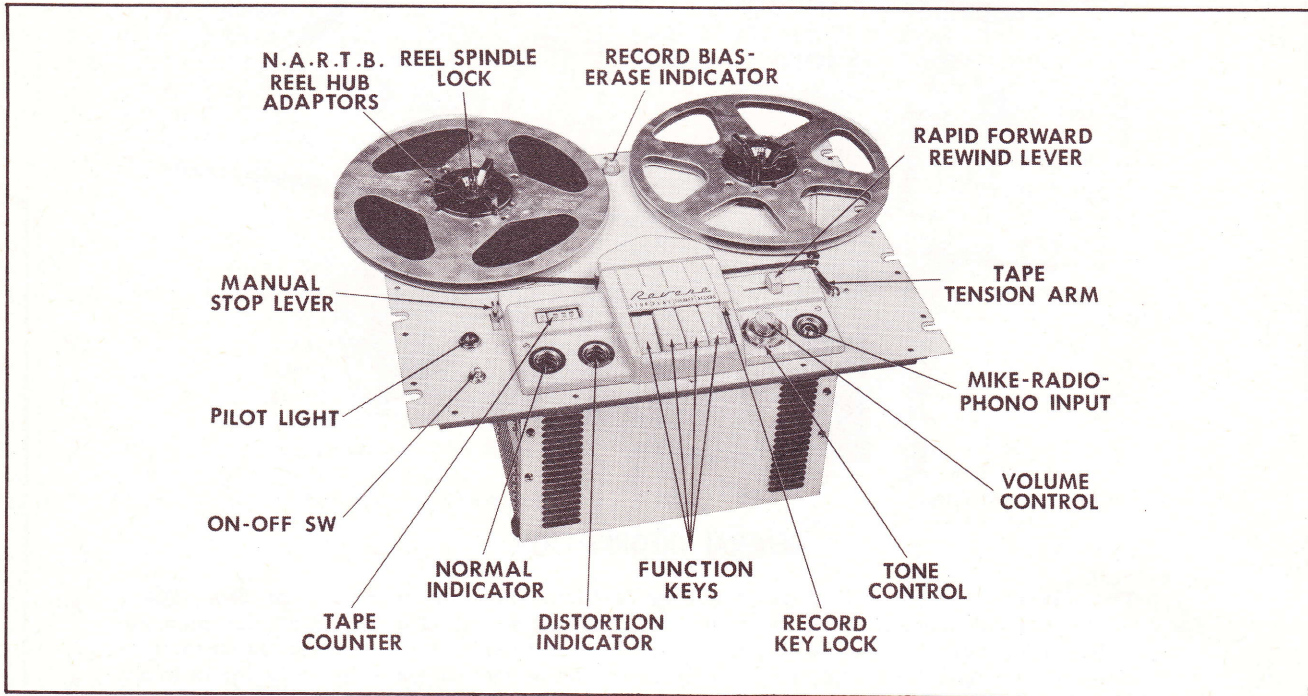

Figure 1
2. Unwind about 20" of tape from the reel. Hold a section of the tape straight with both hands and insert the tape in the tape slot making sure the dull coated side of the tape faces the rear of the recorder. Feed the tape around the tape tension arm (12), as shown in Figure 1, and into one of the slots in the empty reel. Rotate the reel counter-clockwise until the tape is secured to the reel.